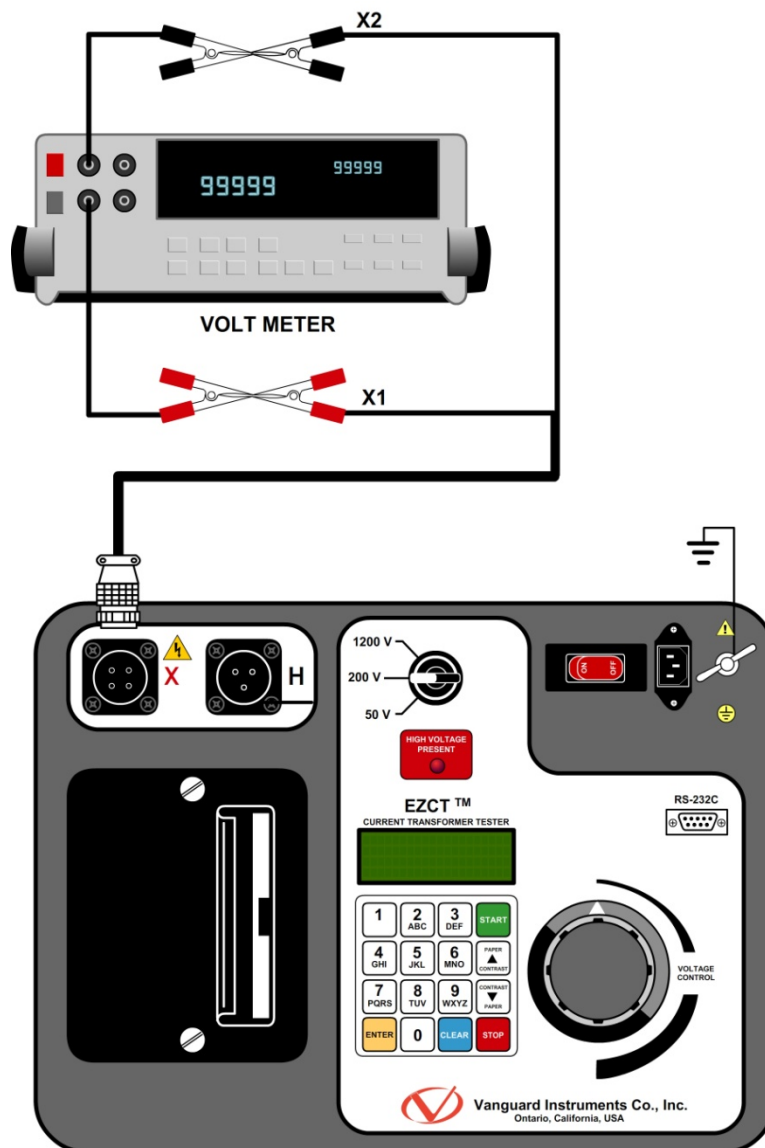

Figure 15. EZCT  $V_x$  Verification Test Connections
- Connect the X cables to an RMS volt meter as shown in Figure 15.